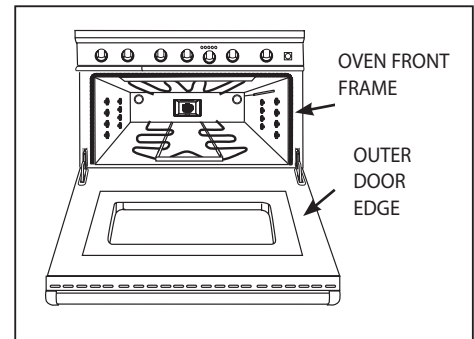

Fig. 14
- Clean the oven front frame and outer door edges. Wipe up large spillovers and grease (see Fig. 14).